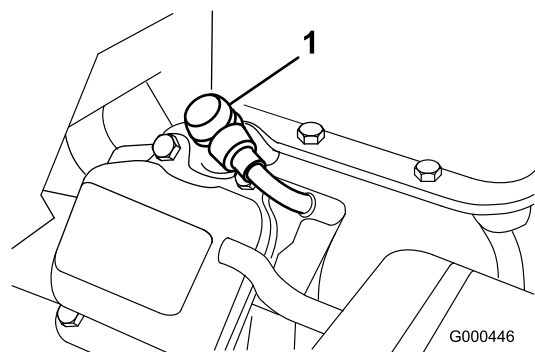

Figure 25
1. Pull the molded wire off of the spark plug (Figure 25).